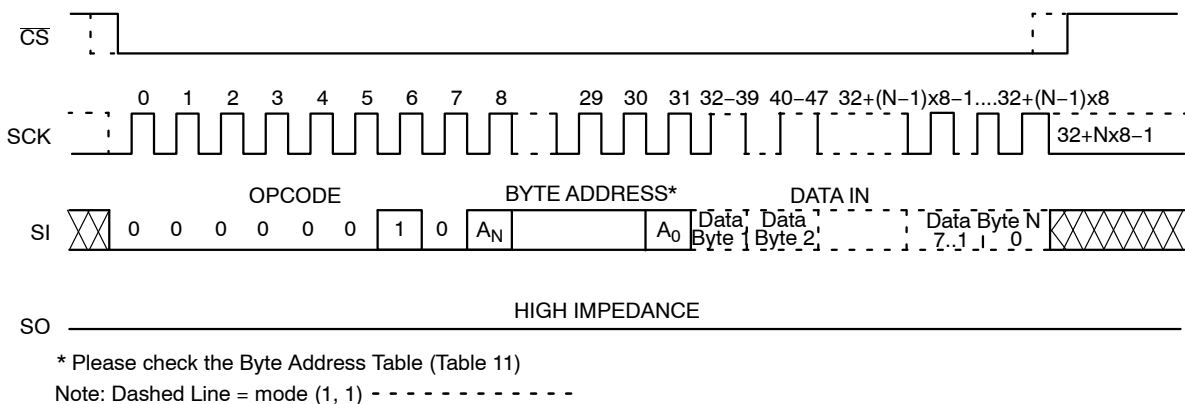

Figure 6. Page WRITE Timing
After sending the first data byte to the NV25M01, the host may continue sending data, up to a total of 256 bytes, according to timing shown in Figure 6. After each data byte, the lower order address bits are automatically incremented, while the higher order address bits (page address) remain unchanged. If during this process the end of page is exceeded, then loading will “roll over” to the first byte in the
The 256-byte Identification Page (IP) can be written with user data using the same Write commands sequences that are used for writing to the main memory array (Figure 6). **The IPL Status Register bit must be set (IPL = 1), before attempting to write to the IP.**